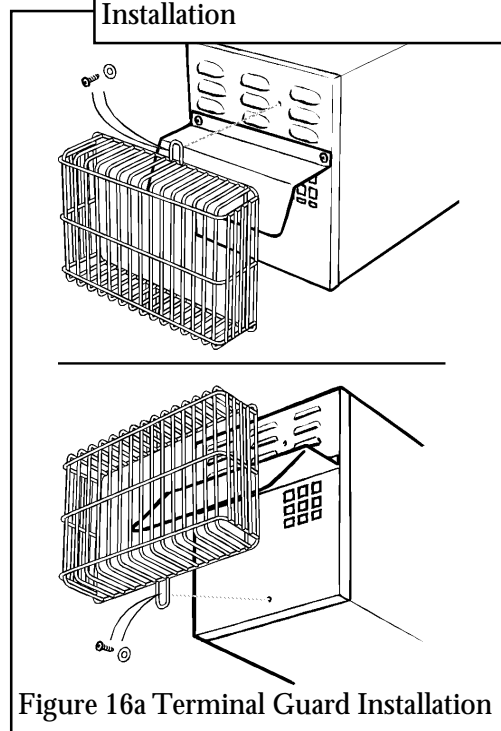

Figure 16a Terminal Guard Installation
9.1.4 Fit the terminal guard. Secure the guard at the bottom with the screw and washer previously removed. Secure the guard at the top between the two right hand columns of louvres using the screw and washer supplied in the pack. see figure 16a.